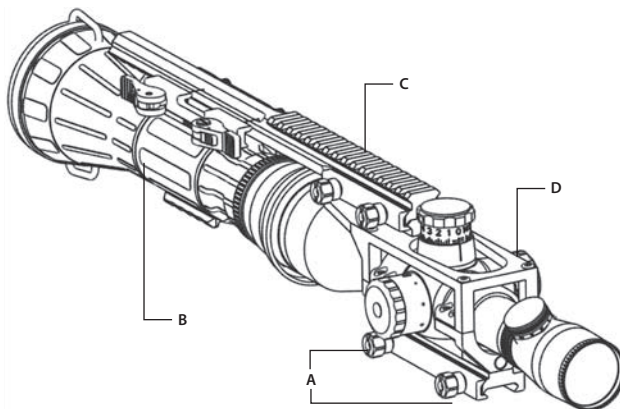

FIGURE 3-10. CO-LR AND DAY SCOPE MOUNTED IN FSRs SYSTEM
Figure 3-10 shows the CO-LR and day scope mounted to the FSRs system.
2. Loosen the nuts (A, Figure 3-10); install the extension mount (C) onto the Weaver rail of the bridge (D). Retighten the nuts (A) with a screwdriver.
3. Install the CO-LR (B) onto the Weaver rail, underneath the extension mount, as shown in Part 3.1.3.